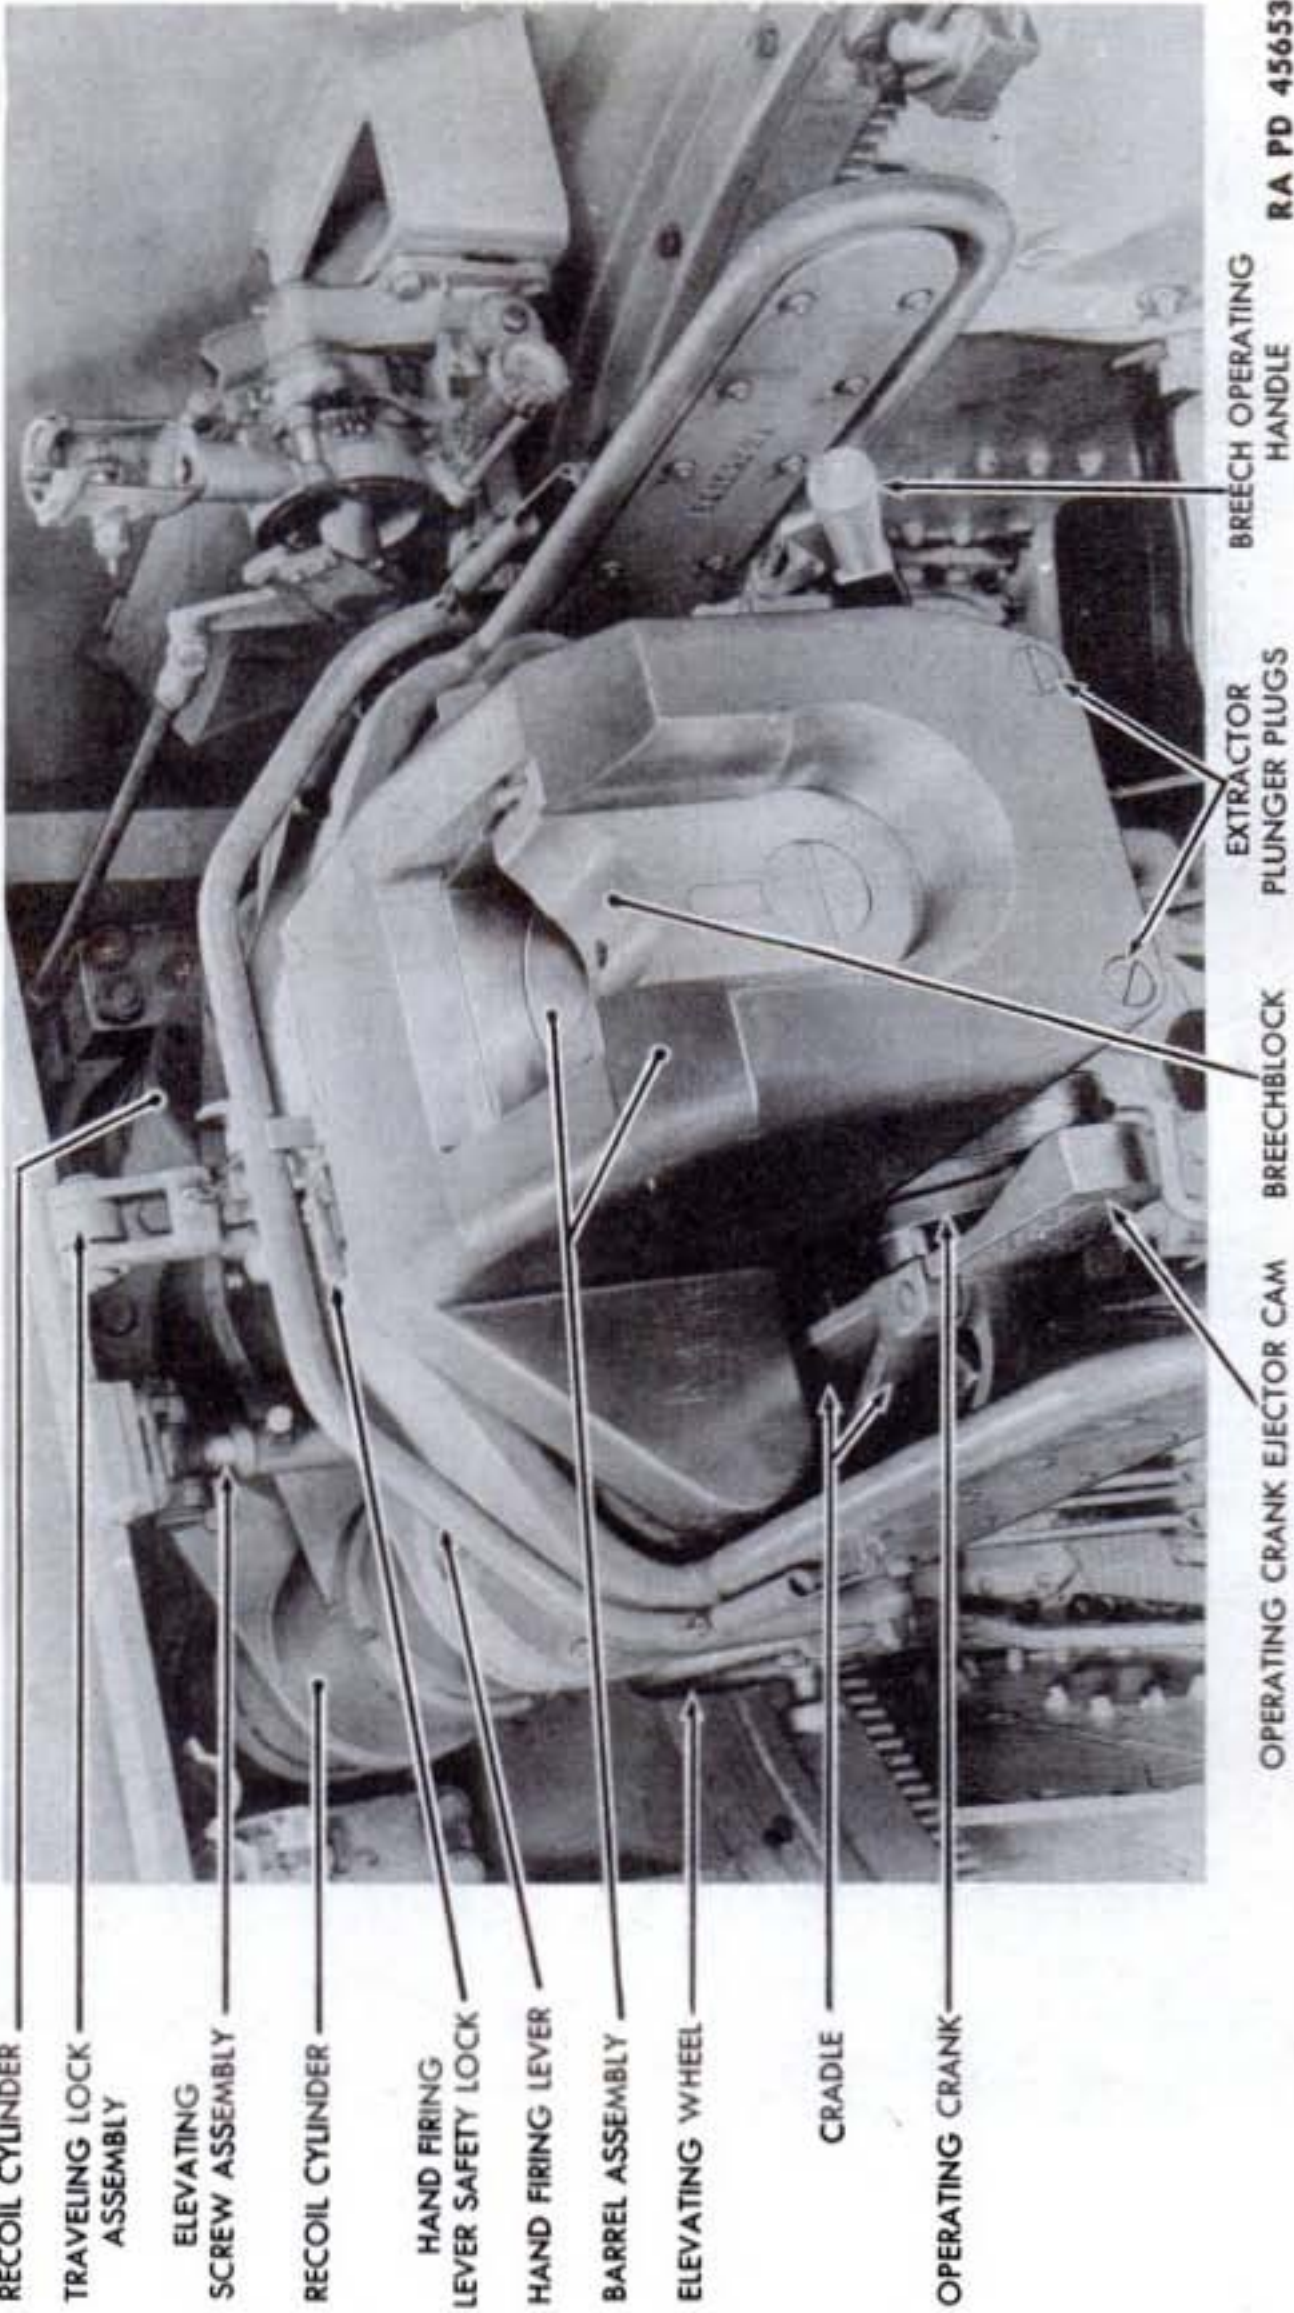

Figure 170—Left Quarter View of Breech End of Gun
(2) The breech is usually automatically opened by the action of the operating crank ejector cam (fig. 170) during counterrecoil. However, the breech may be opened or closed manually by using the breech operating handle.
(1) After a round has been fired, the gun recoils in the cradle. The counterrecoil springs return the gun to battery position.
(2) As the gun (fig. 170) slides forward, a projecting lug on the operating crank contacts an operating crank ejector cam on the cradle, and the operating crank is rotated rearward. The operating crank transmits the rearward motion through the breech operating shaft to the breechblock operating crank, whose arm swings rearward and downward, thereby causing the cross heads (on breechblock operating crank) to slide in the T-slot of the breechblock and to lower the breechblock.
(3) The rotation of the breech operating shaft also rotates the chain terminal crank rearward, thereby drawing the closing spring piston rearward and compressing the closing spring.